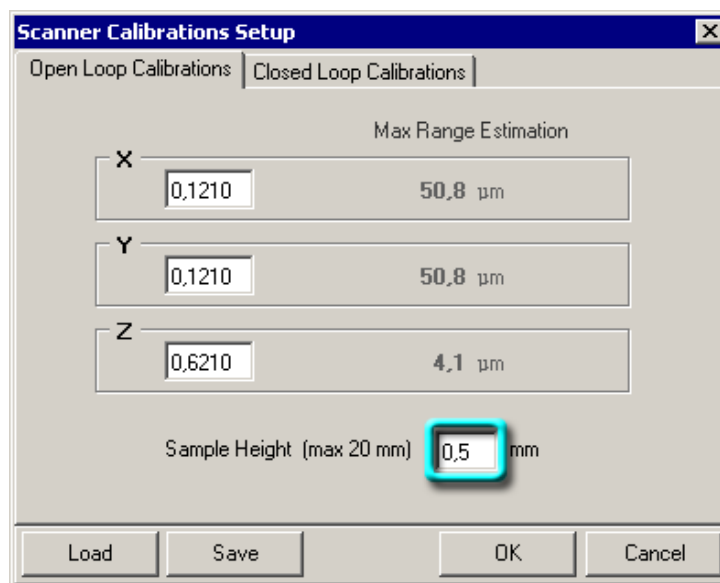

Fig. 10-11. **Scanner Calibration Setup** dialog
1. Open the **Scanner Calibration Setup** dialog (Fig. 10-11) by selecting the Main menu command **Settings → Calibrations → Change Calibrations**.
2. In the **Sample Height** input field of any of the tabs, enter the sample height (Fig. 10-11).